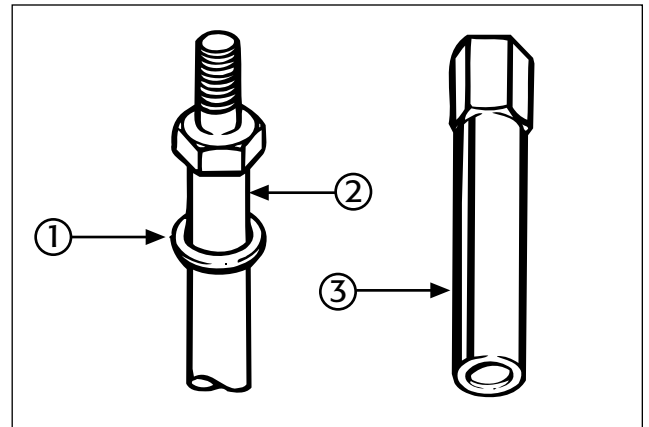
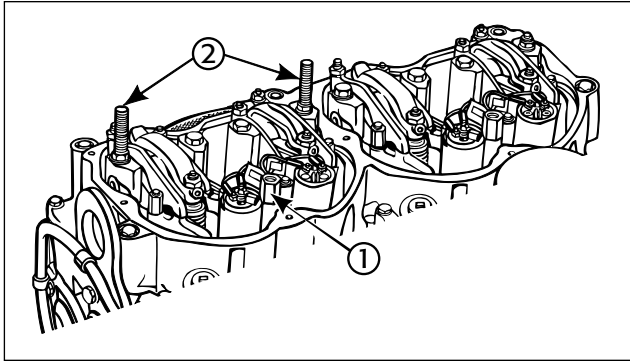

FIG. 8
FIG. 9
Refer to Fig. 8 to install the Caterpillar washer (1) on the Jacobs' cylinder head bolt (2) and install the bolt into the hole. Tighten the bolt to 203 lbft. (275 N•m).
Install the cylinder head bolt spacers (3, Fig. 8) on the cylinder head bolts and hand tighten only (1, Fig. 9).
Remove the rocker lever bolts at the six locations next to the exhaust rocker levers. Install the mounting stud assemblies (2) and torque to 70 lbft. (95 N•m) (see Fig. 9).
Refer to Fig. 9 on page 6. Unscrew the cylinder head bolt spacer (1) until it contacts the bottom of the housing.